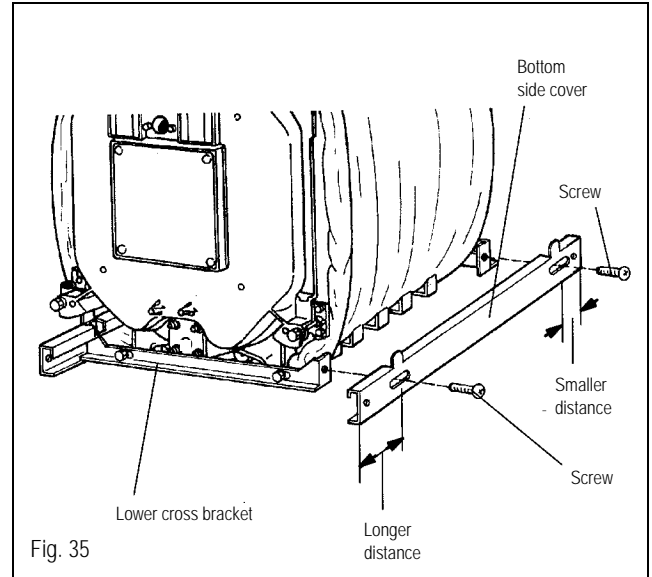

Fig. 35
- Place the bottom side covers with the longer projecting end facing forward, against the lower cross brackets (Fig. 35).
- Screw the bottom side covers to the cross brackets with sheet metal screws (Fig. 35).